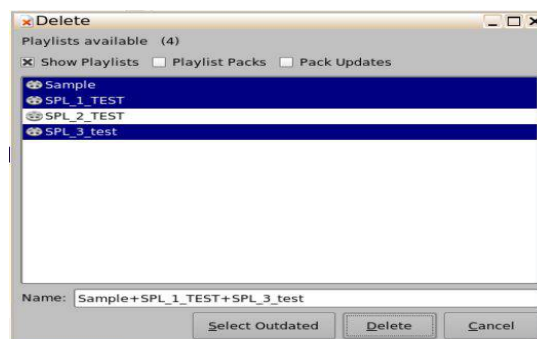

Figure 68: Delete SPL Window - SPLs Selected
- Select the Show Playlists to delete by holding the "Ctrl" key on the keyboard. This function will allow users to select multiple SPLs. Or click the Select Outdated SPLs button to select all SPLs that are not linked (Figure 68):